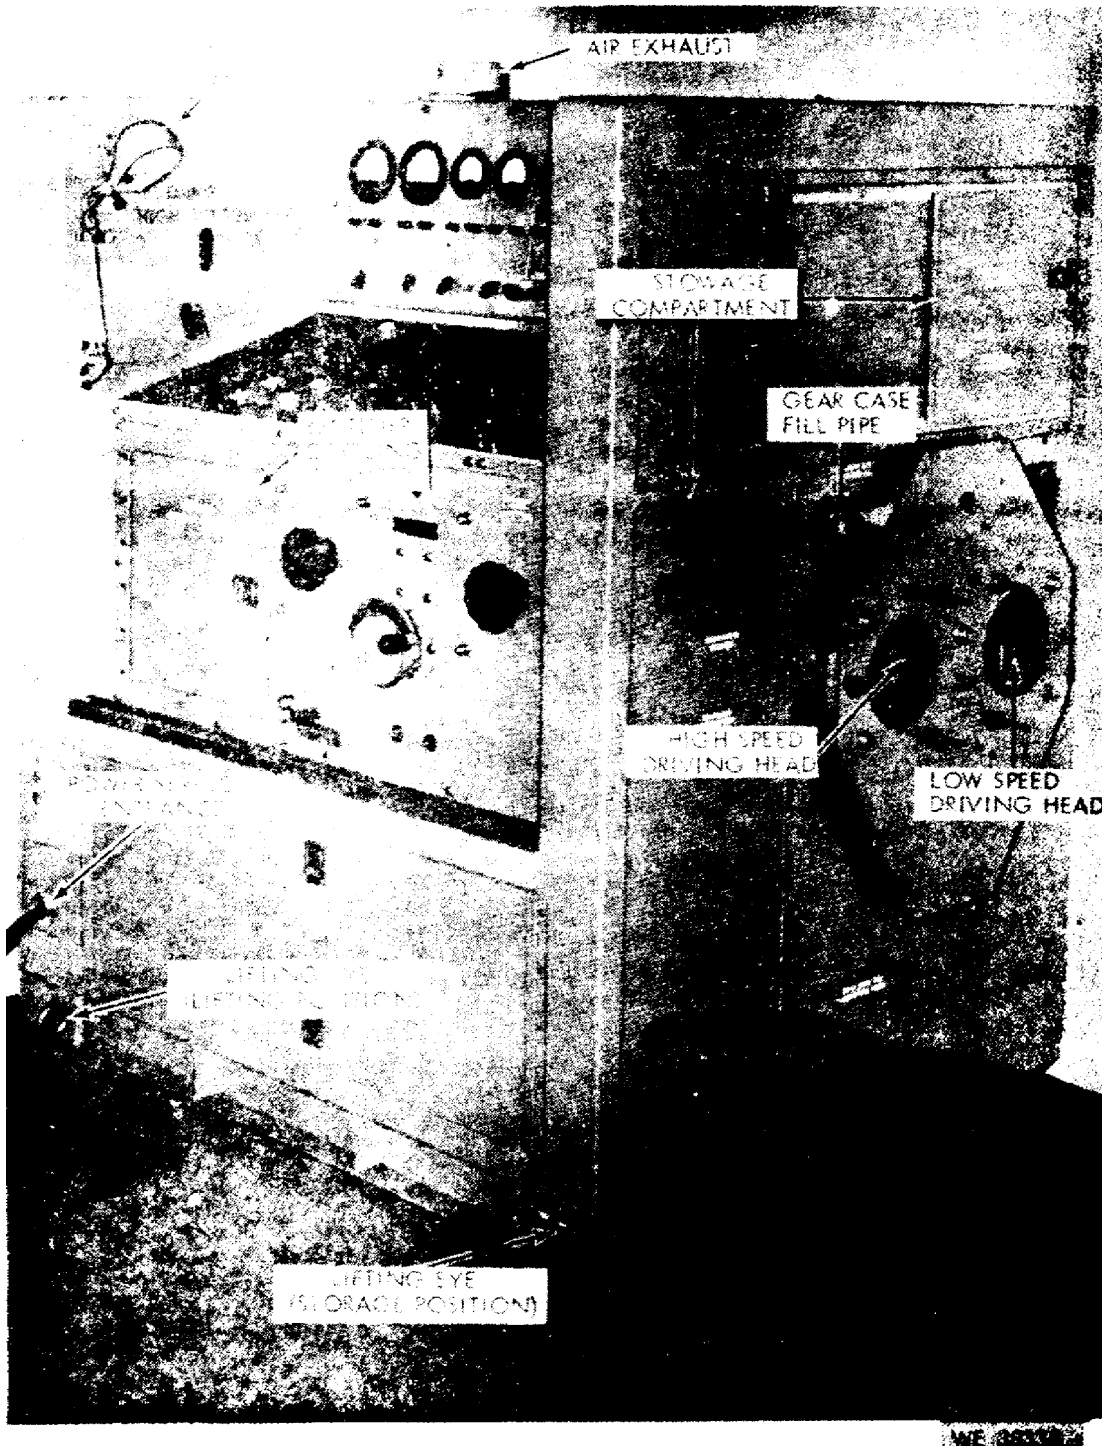
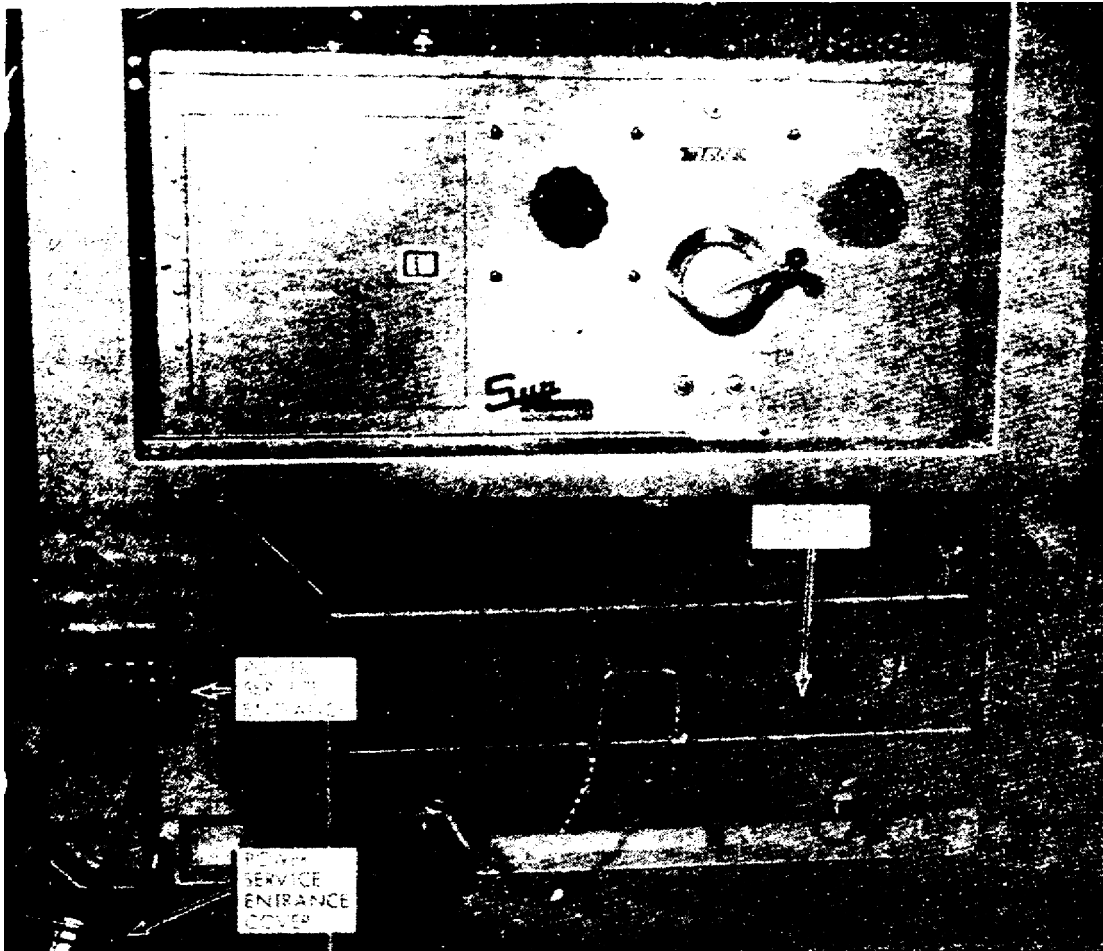
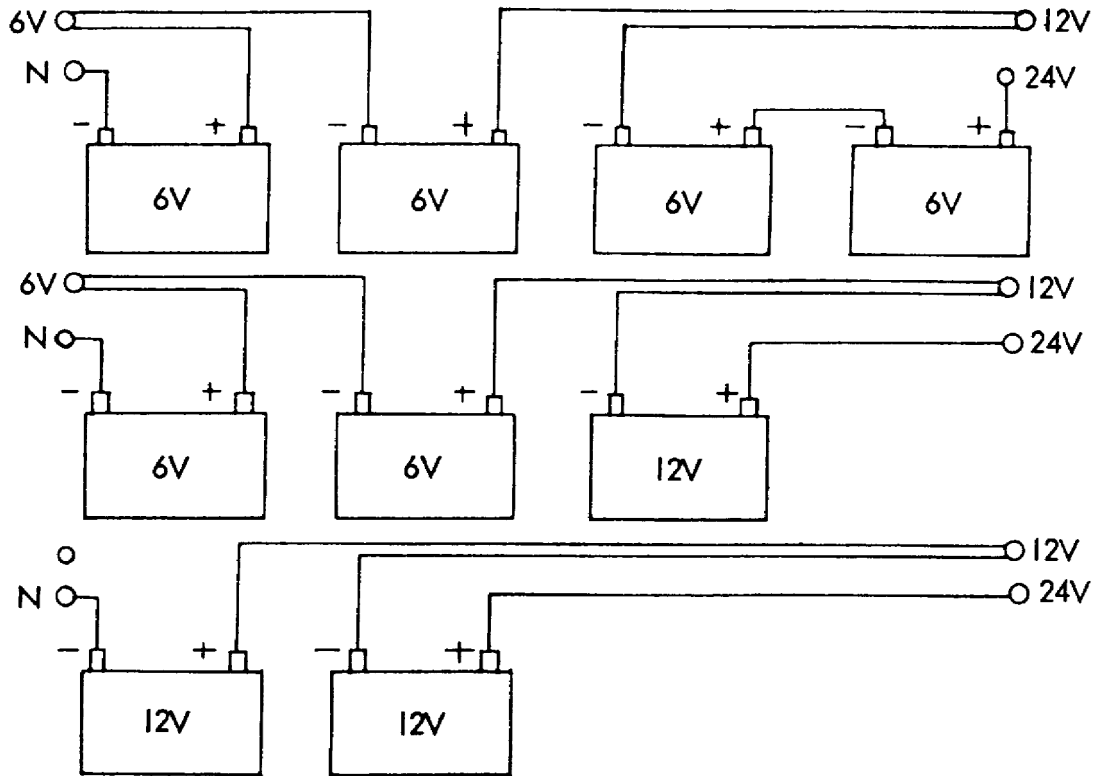

Figure 1. Test stand.
Figure 2. Test stand - front.
Figure 3. Battery wiring diagram. 6-, 12, and 24-volt combination.
a. The test stand (fig 1) is an electrically operated device. Batteries of the lead-acid type are one source of electrical energy for the test stand. They are stored on the battery platform shown in figure 2. Different combinations of batteries may be used to produce the required DC outputs (fig 3). AC power for test stand operation must be available from an external source. Three-phase, 220/440 volt, 60-hertz (cycle) power is required.